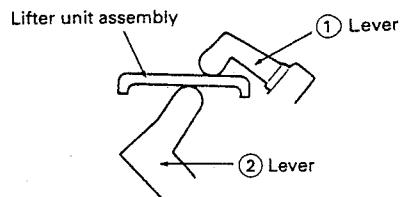

Fig. 22
(1) Pass the wires through the chassis hole.
(2) Mount the lifter unit assembly on the lift lever (3 locations).
(3) Turn the upper/lower drive unit pulley (counterclockwise seen from the top). (The mechanism moves down.) If the left side of the lifter unit assembly is difficult to move down at this time, push down the lifter unit assembly and verify the state shown in Fig. 22.